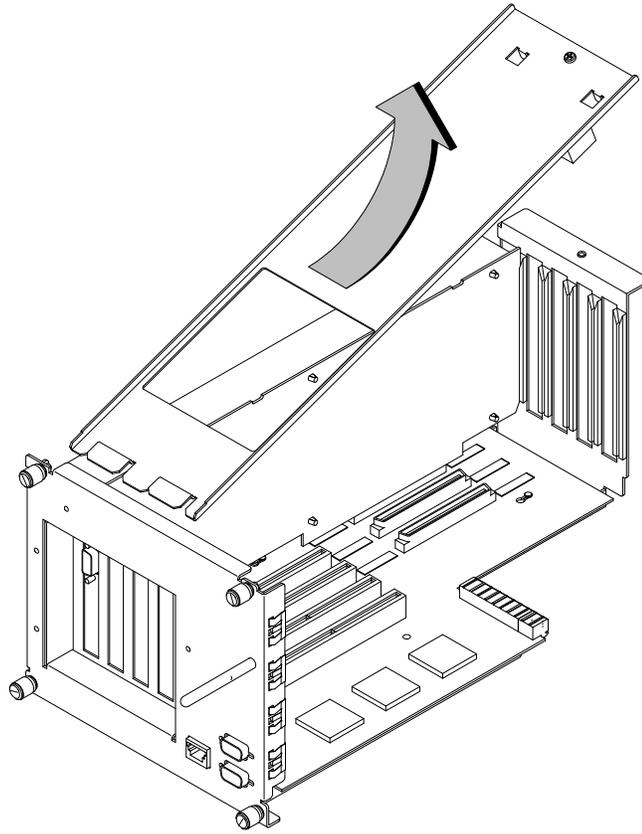

Figure B-35. Removing the EISA Assembly Cover
3. Unscrew one screw at the back of the cover and lift the cover up and out to remove it from the EISA Assembly. See Figure B-35.